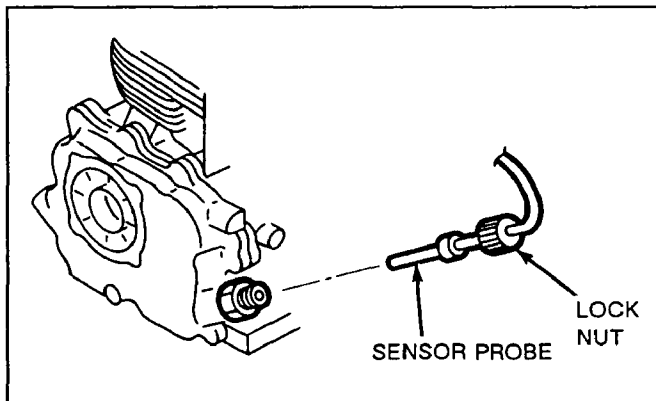

Figure 2-2.
#### Figures 2-2 and 2-3
3. Check Sensor (Figures 2-2 and 2-3).